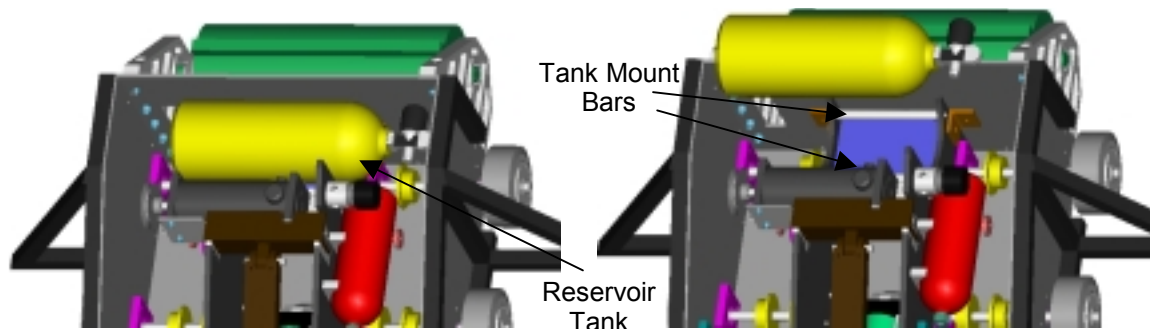

Figure 4.1 – Reservoir Tank
The reservoir tank holds the air for the pneumatic system. The tank rests in round cutouts in the bulkheads in the rear of the Bot. The cutouts are covered with a 1/4" sheet of rubber to protect the bulkheads and cushion the tank. Two large hose clamps wrap around the tanks and over two horizontal bars between the bulkheads. When the hose clamp is tightened, the tank is pulled tight into the cutouts in the bulkheads as seen in Figure 4.1.
1. Push tank through hose clamps bottom end first as seen in Figure 4.1.